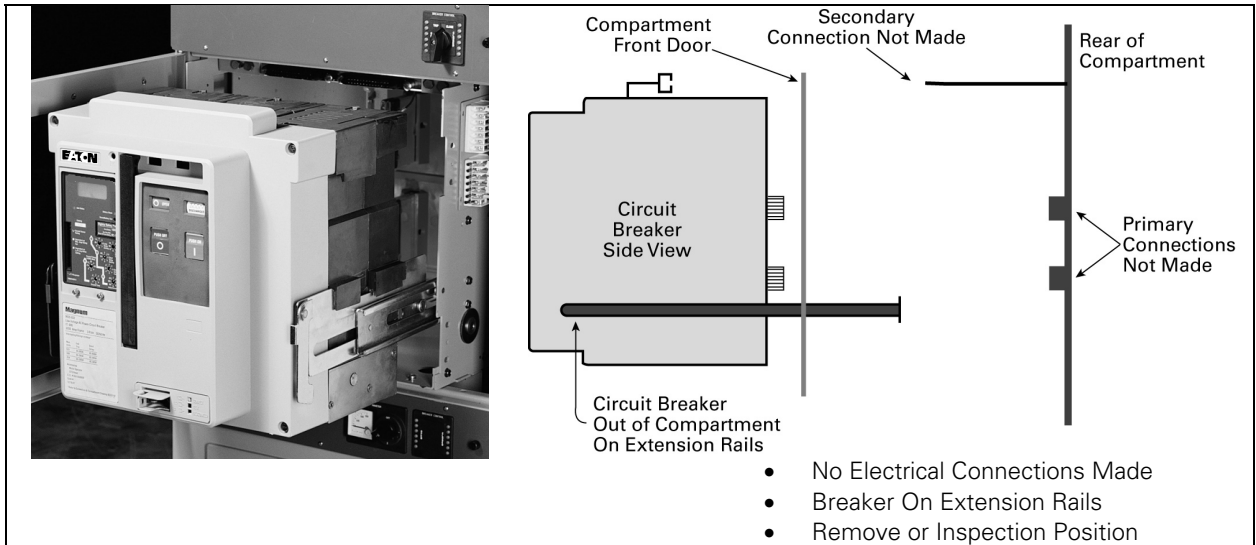
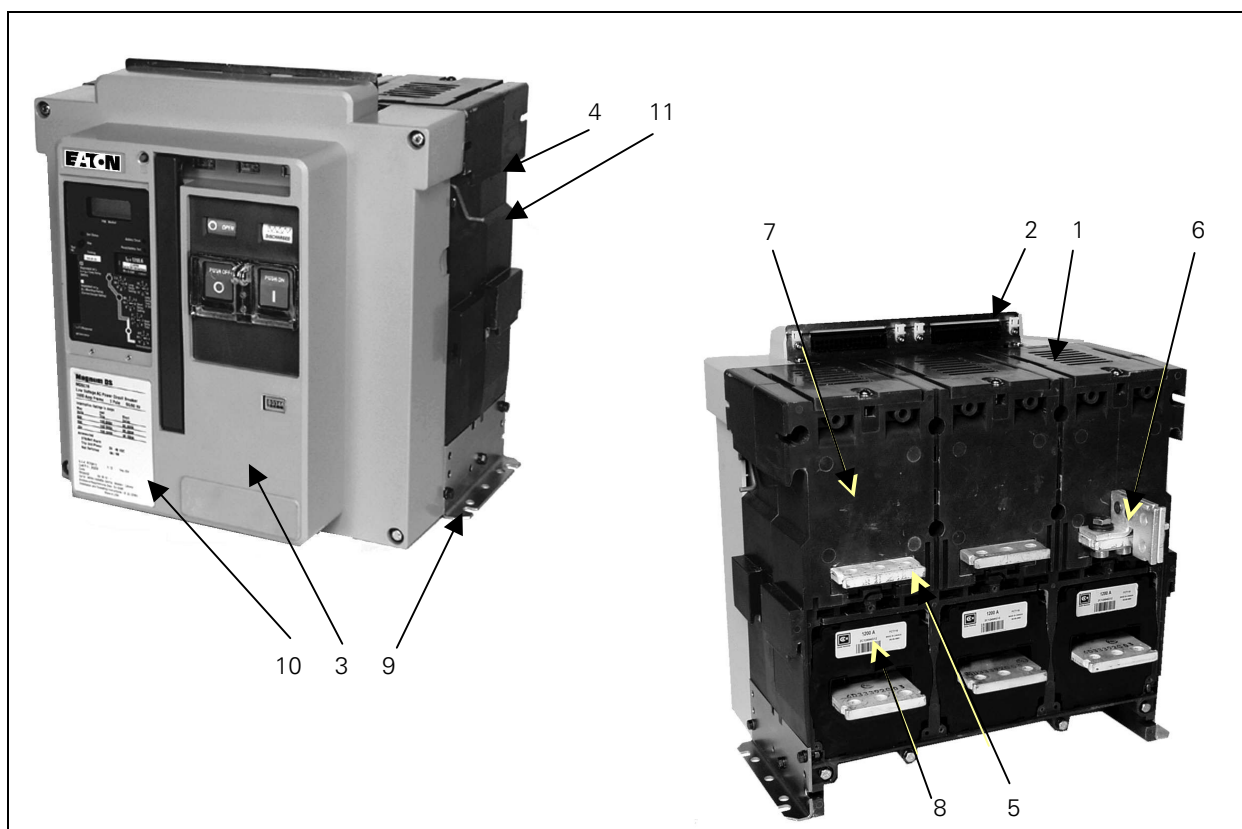

Figure 2-5: Remove Position
Figure 3-2: Typical Fixed Circuit Breaker Features (Front and Rear Views)
- REMOVE (Withdrawn) (Figure 2-5)
Magnum circuit breakers are available in three physical frame sizes and in both drawout and fixed mounting configurations (Figure 2-5 and Figure 3-2). A majority of features are common to both configurations, and will be discussed in this section. The mounting features unique to the drawout and fixed configurations will be covered individually in Sections 4 and 5 respectively.